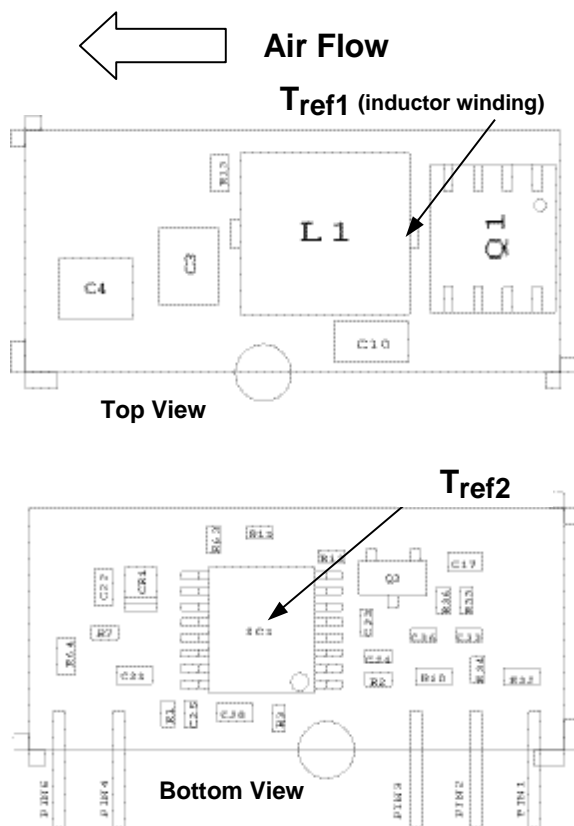
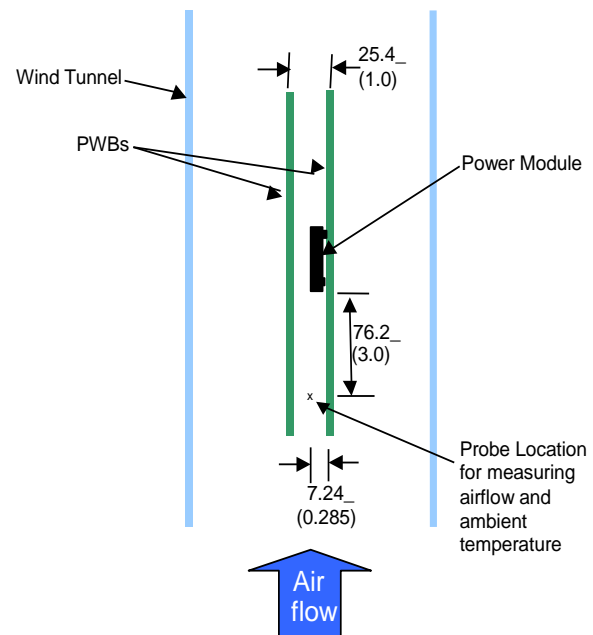

Figure 32. Tref Temperature measurement location.
Figure 33. Thermal Test Set-up.
To provide over temperature protection in a fault condition, the unit relies upon the thermal protection feature of the controller IC. The unit will shutdown if the thermal reference point T_{ref2} , (see Figure 33) exceeds 140°C (typical), but the thermal shutdown is not intended as a guarantee that the unit will survive temperatures beyond its rating. The module will automatically restarts after it cools down.
Considerations include ambient temperature, airflow, module power dissipation, and the need for increased reliability. A reduction in the operating temperature of the module will result in an increase in reliability. The thermal data presented here is based on physical measurements taken in a wind tunnel. The test set-up is shown in Figure 33. Note that the airflow is parallel to the long axis of the module as shown in Figure 32. The derating data applies to airflow in either direction of the module's long axis.
The thermal reference point, T_{ref1} used in the specifications of thermal derating curves is shown in Figure 32. For reliable operation this temperature should not exceed 125°C.